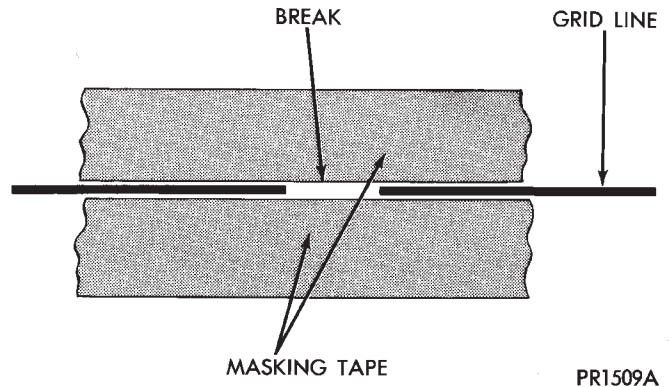

Fig. 3 Grid Line Repair - Typical
(1) Mask the repair area so that the conductive epoxy can be applied neatly. Extend the epoxy application onto the grid line or the bus bar on each side of the break (Fig. 3).